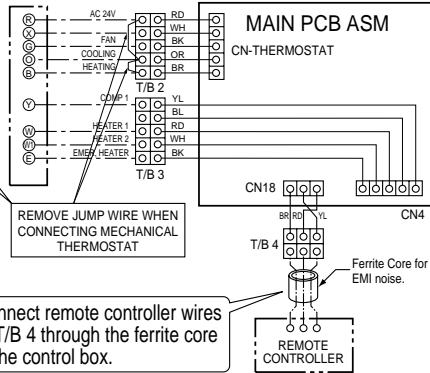

Figure 5E
■ Heat pump - 1 Comp, 2 Heater(Figure 5E)